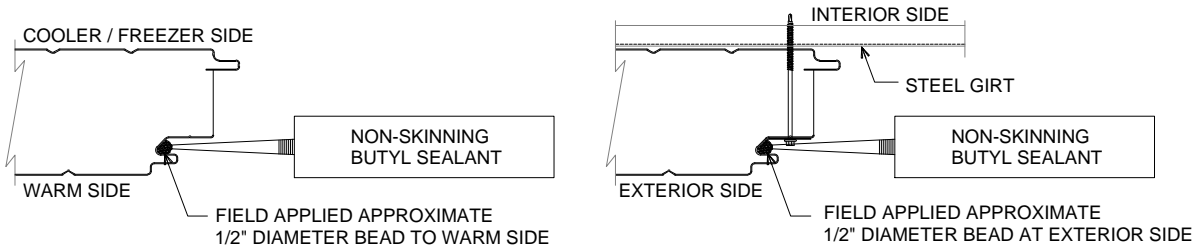

FIGURE 5
- 13.1 APPLY CAULKING TO PANEL EDGES AS SHOWN ON DRAWING DETAILS TO PROVIDE A VAPOR AND AIR INFILTRATION BARRIER WHEN PANELS ARE ENGAGED. CAULKING IS BEST APPLIED WHILE PANELS ARE LYING FLAT. CAULKING SHOULD BE PROVIDED AROUND PANEL OPENINGS AND GIRTS WHERE PANEL ENDS OCCUR TO DEVELOP A VAPOR AND AIR INFILTRATION SEAL. THE BEADS OF CAULK ON THE STRUCTURAL SUPPORTS MUST BE MARRIED TO THE BEADS OF CAULK IN THE INTERIOR SIDE OF THE PANEL JOINT. APPLY BEADS OF CAULK IMMEDIATELY PRIOR TO ENGAGING PANELS. FIELD APPLY BEAD OF CAULK IN EXTERIOR SIDE OF JOINT WHEN PANEL TERMINATES OVER WINDOWS, DOORS, OR OTHER OPENINGS. (SEE FIGURE 5) NOTE: SEE JOINT DETAIL FOR JOB SPECIFIC CAULKING INSTRUCTIONS.